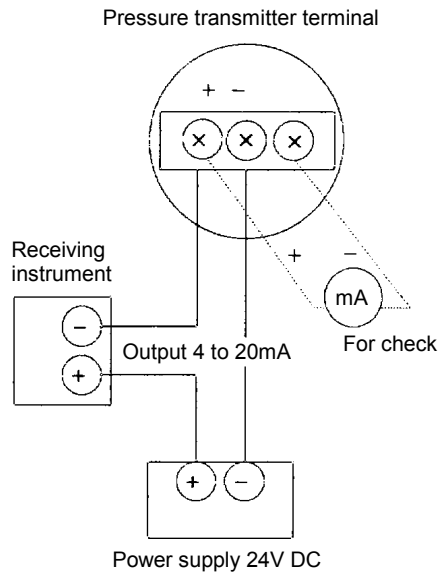

Fig.4 Wiring Diagram
- For the wiring method, refer to Fig. 4.